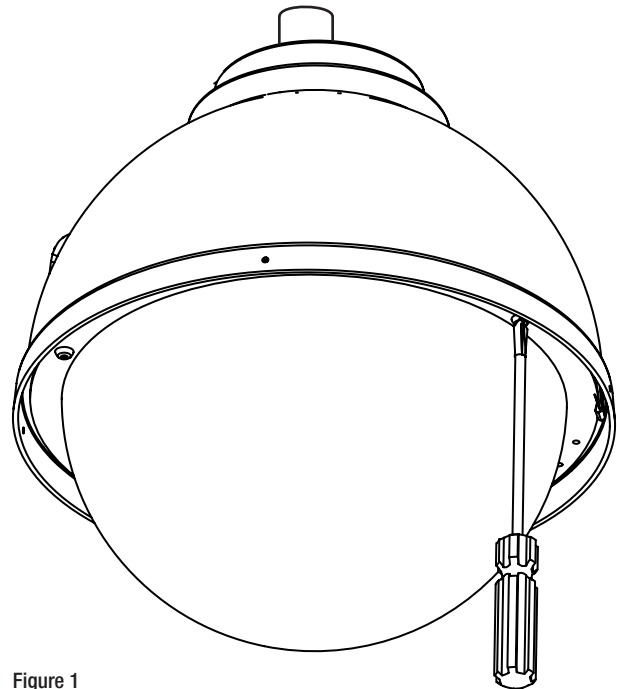

Figure 1
1. Open the housing by loosening the (3) security screws located on the housing ring next to the lower clear dome (**Figure 1**).